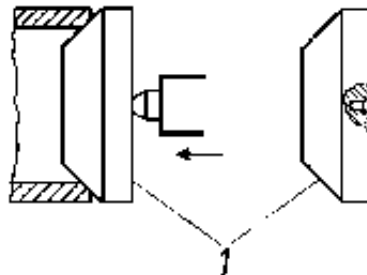

Figure 26 Counter-supporting by means of thrust pads
- If a tailstock is used as counter-support with a centre smaller than the bore of the part, thrust pads as per Fig. 26 are to be used.